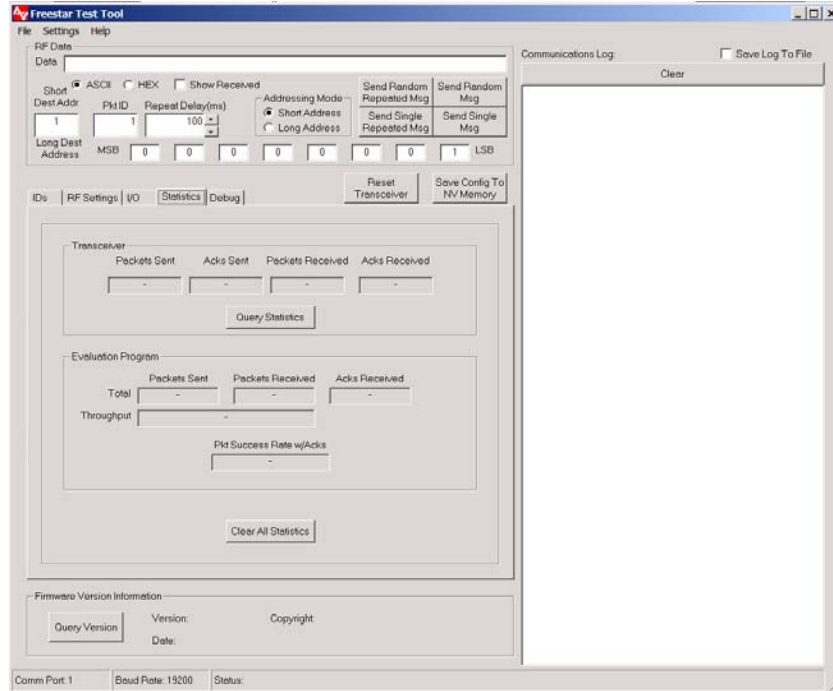

Figure 4-5. Statistics Settings Screen
4.2.5 Statistics (See Figure 4-5)
The statistics page can be selected by clicking the *Statistics* tab in the software. This is shown in Figure 4-5. The statistics option can be used to evaluate the wireless link for packet error rates and throughput.